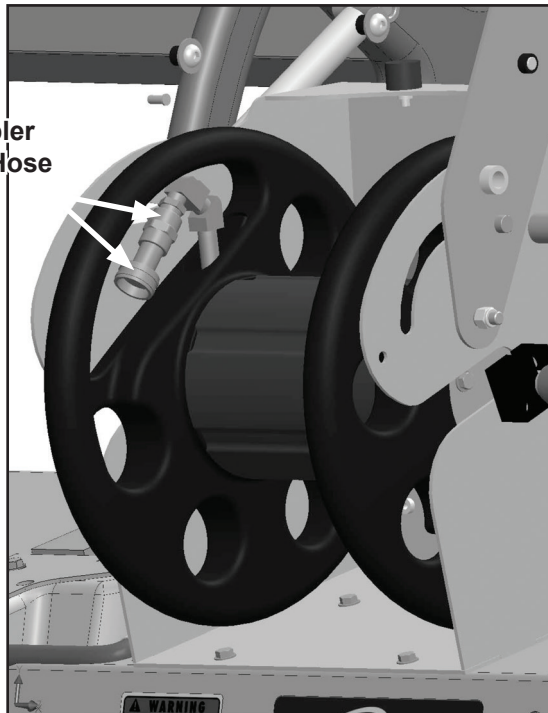

Figure 51. Install Bumper Mounts, Coupler and Bushing
6. Apply Loctite 242 to the threads of the 2 rubber bumper mounts and install the mounts as indicated in Figure 51.
7. Install the 3/8" coupler and the 3/4" bushing (see Figure 51).